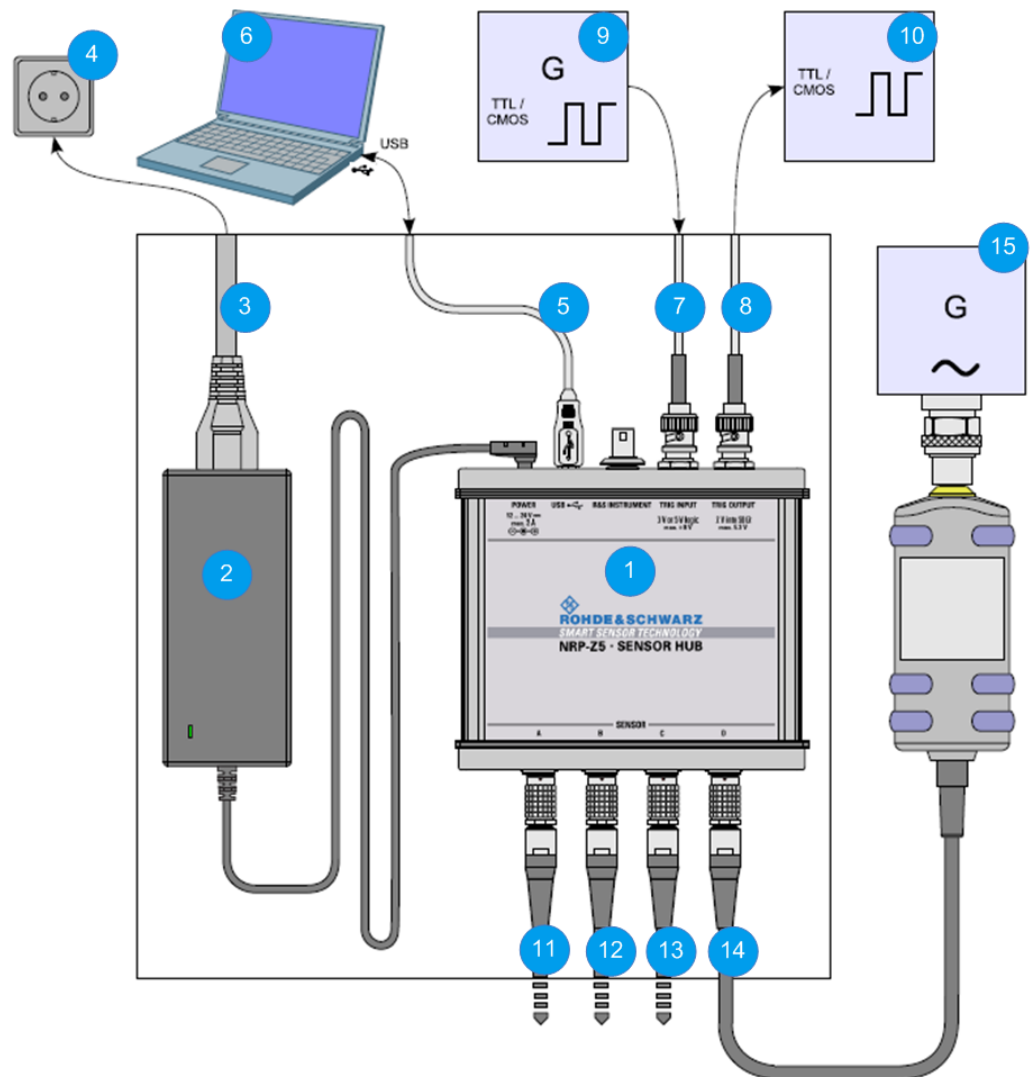

Figure 5-3: Setup with an R&S NRP-Z5 sensor hub
1. Connect the cables as shown in Figure 5-3: